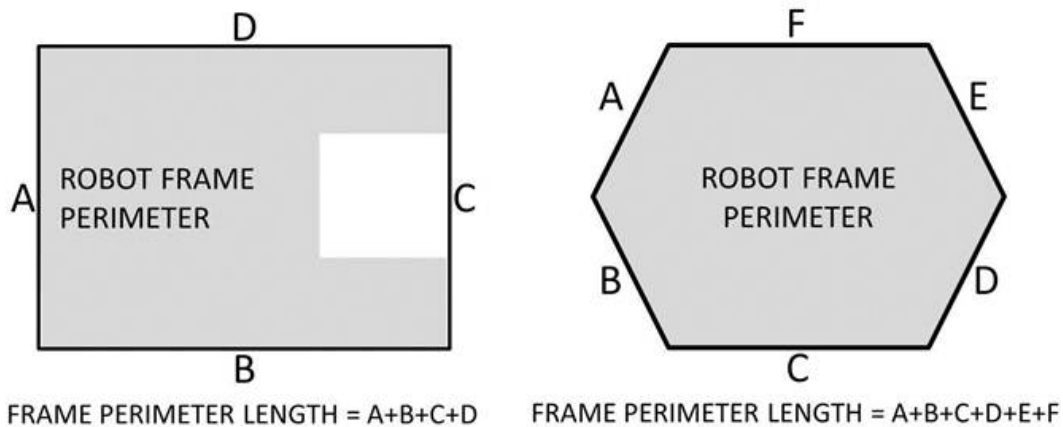

Figure 4-1: FRAME PERIMETER Length Calculation
- A. the total length of the FRAME PERIMETER sides may not exceed 112 in. (see Figure 4-1 for examples),